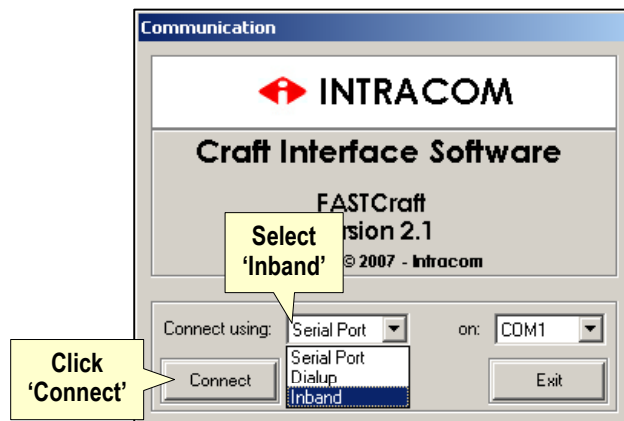

Figure 11 – Inband access (remote)
- 2 Select **Inband** (Figure 11).